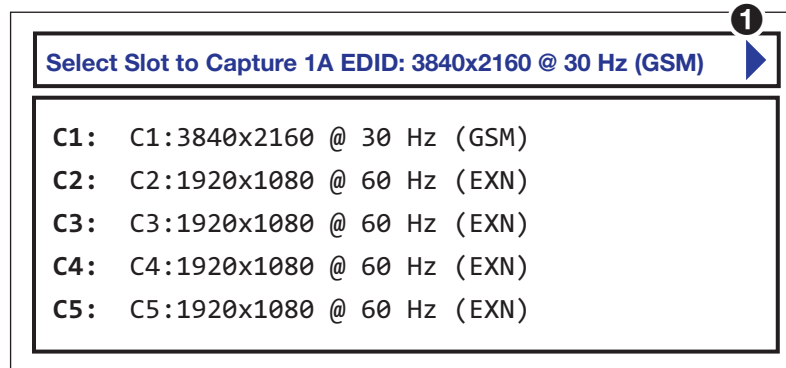

Figure 24. Custom EDID Slots List Example
2. Press the ◀ or ▶ button to select the display (output 1A or 1B) to assign the custom EDID. (The arrow button you press is reflected in the upper-right corner of the screen [see figure 24, ①]).